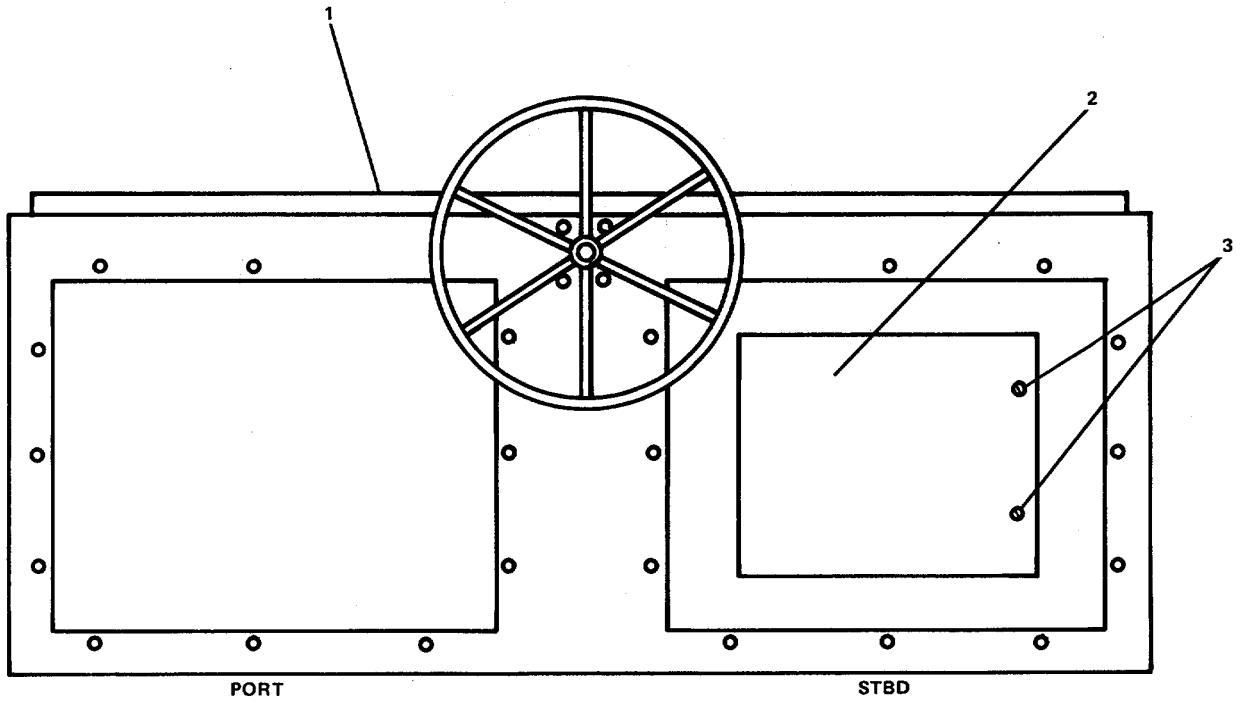

FIGURE 3-103. *Pilothouse Control Console.*
- a. Loosen two latching screws (3, Figure 3-103) securing starboard side access panel (2) to pilothouse control console (1).
- a. Install autopilot assembly (1) into control console and secure with four round head screws (2).
- c. Close access panel (2, Figure 3-103) on control console (1) and secure with two latching screws (3).
- d. Remove four screws (1) from front panel (2).